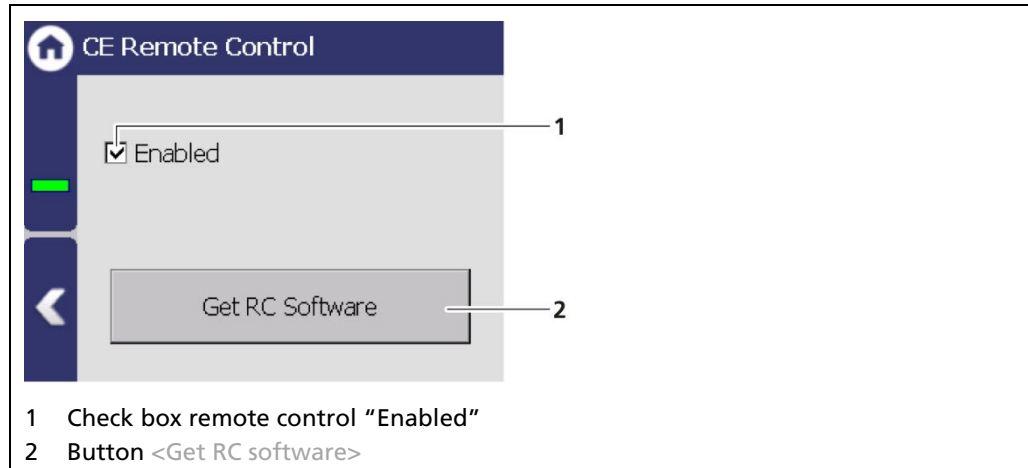

Fig. 46 CE Remote Control
By activating (Fig. 46, item 1) the CE Remote Control, the unit can be operated via the network connection. The software of the remote control (RC software) is stored on the device and can be copied to a USB storage device.
- ▶ The USB storage device is recognised by the system after a few seconds and the button < Get RC Software > (Fig. 46, item 2) can be clicked.
2. Click on the button < Get RC Software > (Fig. 46, item 2).
In order for the Remote Control to function, the selection check mark in the menu "CE Remote Control" must be set to "Active" (Fig. 46, item 1).